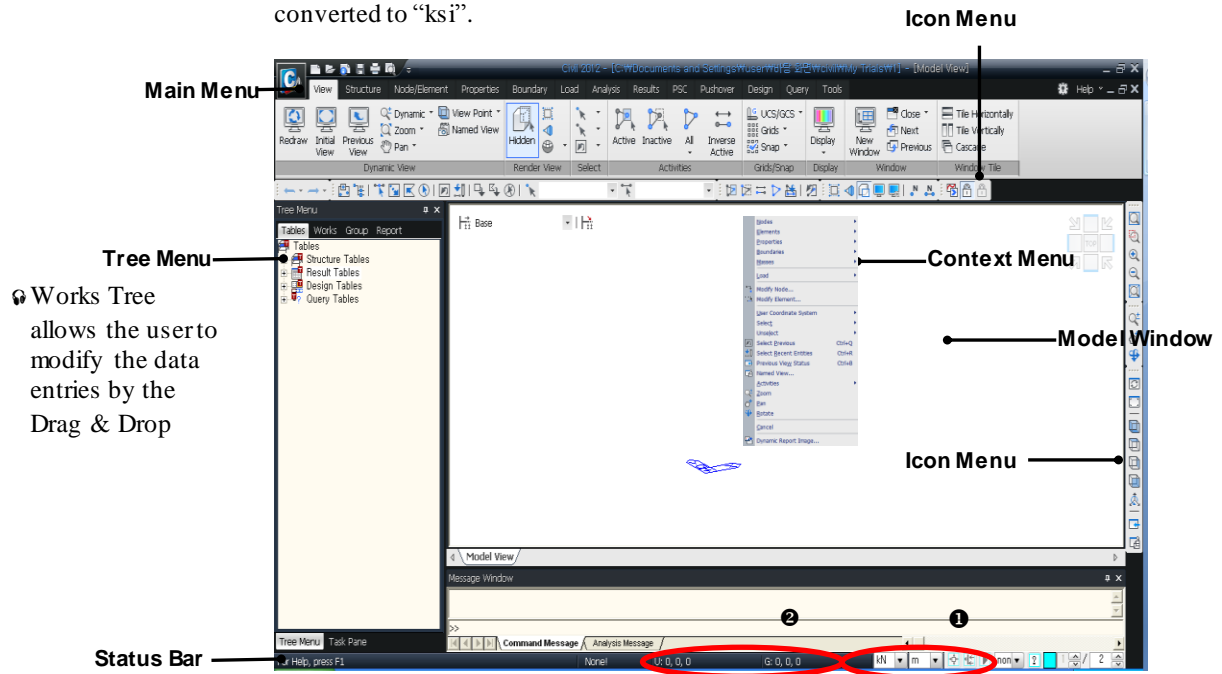

Figure 1.2 Default Window
The data input window and the unit display at the bottom of the screen (Status Bar – Fig. 1.2–❶) indicate the unit system in use and this reduces the possibility of errors. In this example, “ft” and “kip” units are used.
❶ The Toggle on/off status of the icon depends on the initial setting of Civil. It is advisable to toggle on the icons suggested in this tutorial to avoid any error.
The coordinates of the nodes, grids and mouse cursor relative to GCS and UCS are displayed in the Status Bar (Fig.1.2—②).